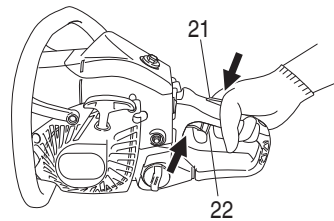

Fig. 16
8. As soon as engine start, with the throttle trigger lockout (21) pressed, pull the throttle trigger (22) and immediately release the throttle trigger (22). (Fig. 16) Then half-throttle is disengaged.